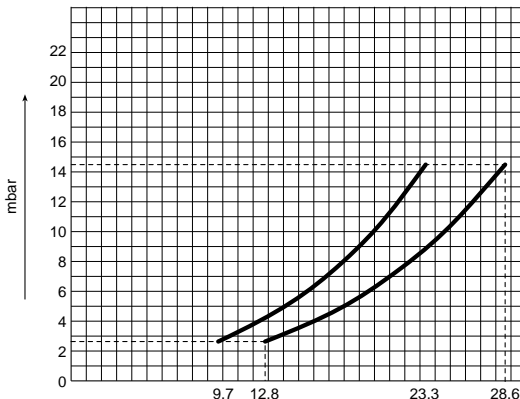

Fig. 23
**Note 2** - The range of inputs with corresponding burner pressure is given on the Data badge which is situated behind the top front panel. Further informations is on (fig. 23).